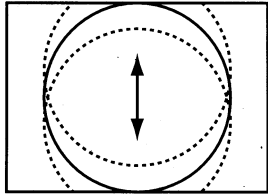

Fig. 2
- Adjust the horizontal location to obtain picture centering (fig. 2)